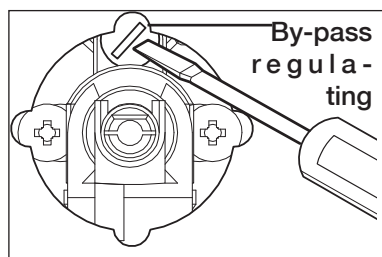

Figure 14a
2. Remove the knob of the corresponding gas tap and insert screwdriver in the screw as showed in figure 14a or 14b (DUAL).